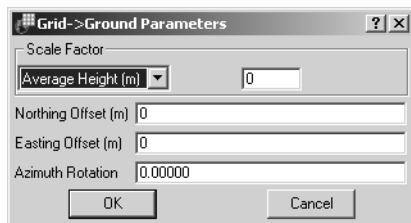

Figure 3-56. Grid->Ground Parameters Dialog Box
3. On the *Grid->Ground Parameters* dialog box, enter the transformation parameters (Figure 3-56).